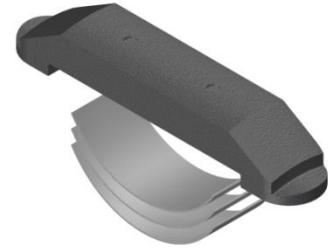

Fig. 5
**NOTE9:** Install three (3ea) springs per drag block (Fig. 5).